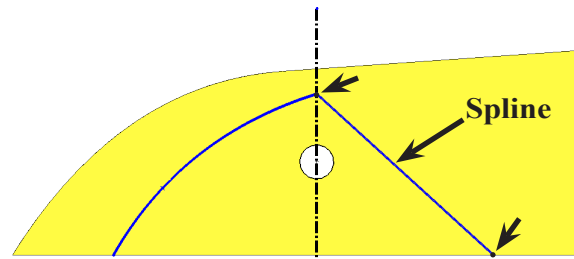

Fig. 80
Step 12. Draw **two point** spline between top endpoint of spline (at centerline) and edge of body on rear side of axle hole, **Fig. 80**.